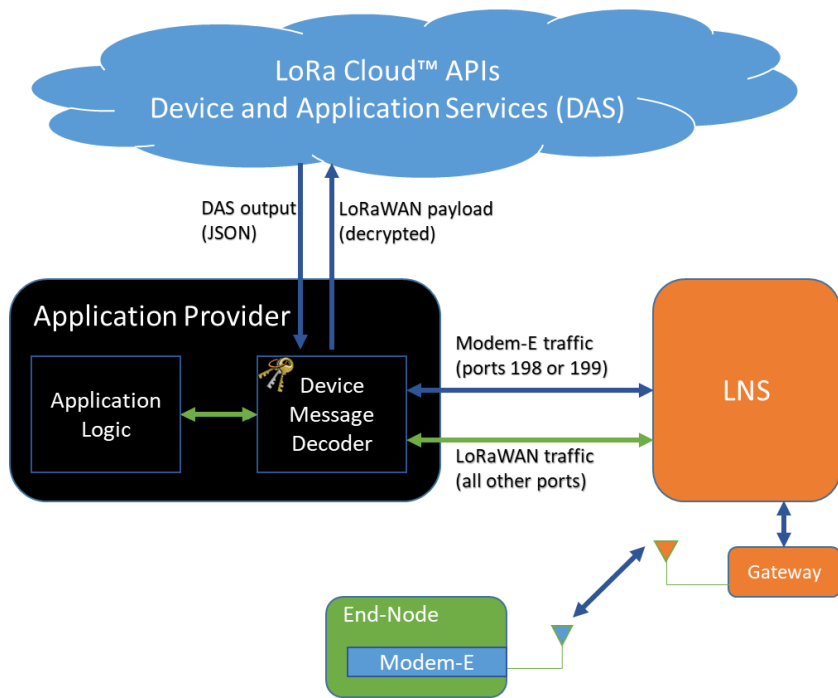

Figure 4: Flow from LoRa Basics Modem-E to Device & Application Services
Figure 4 shows the flow of data from a LoRa Basics Modem-E device to a LoRaWAN network server. The network server forwards all traffic to the Application Provider. Some of that traffic has a special application port number (199), which is routed to the Device & Application Services. Regular traffic that does not travel through port 199 is passed to the application logic without modification.